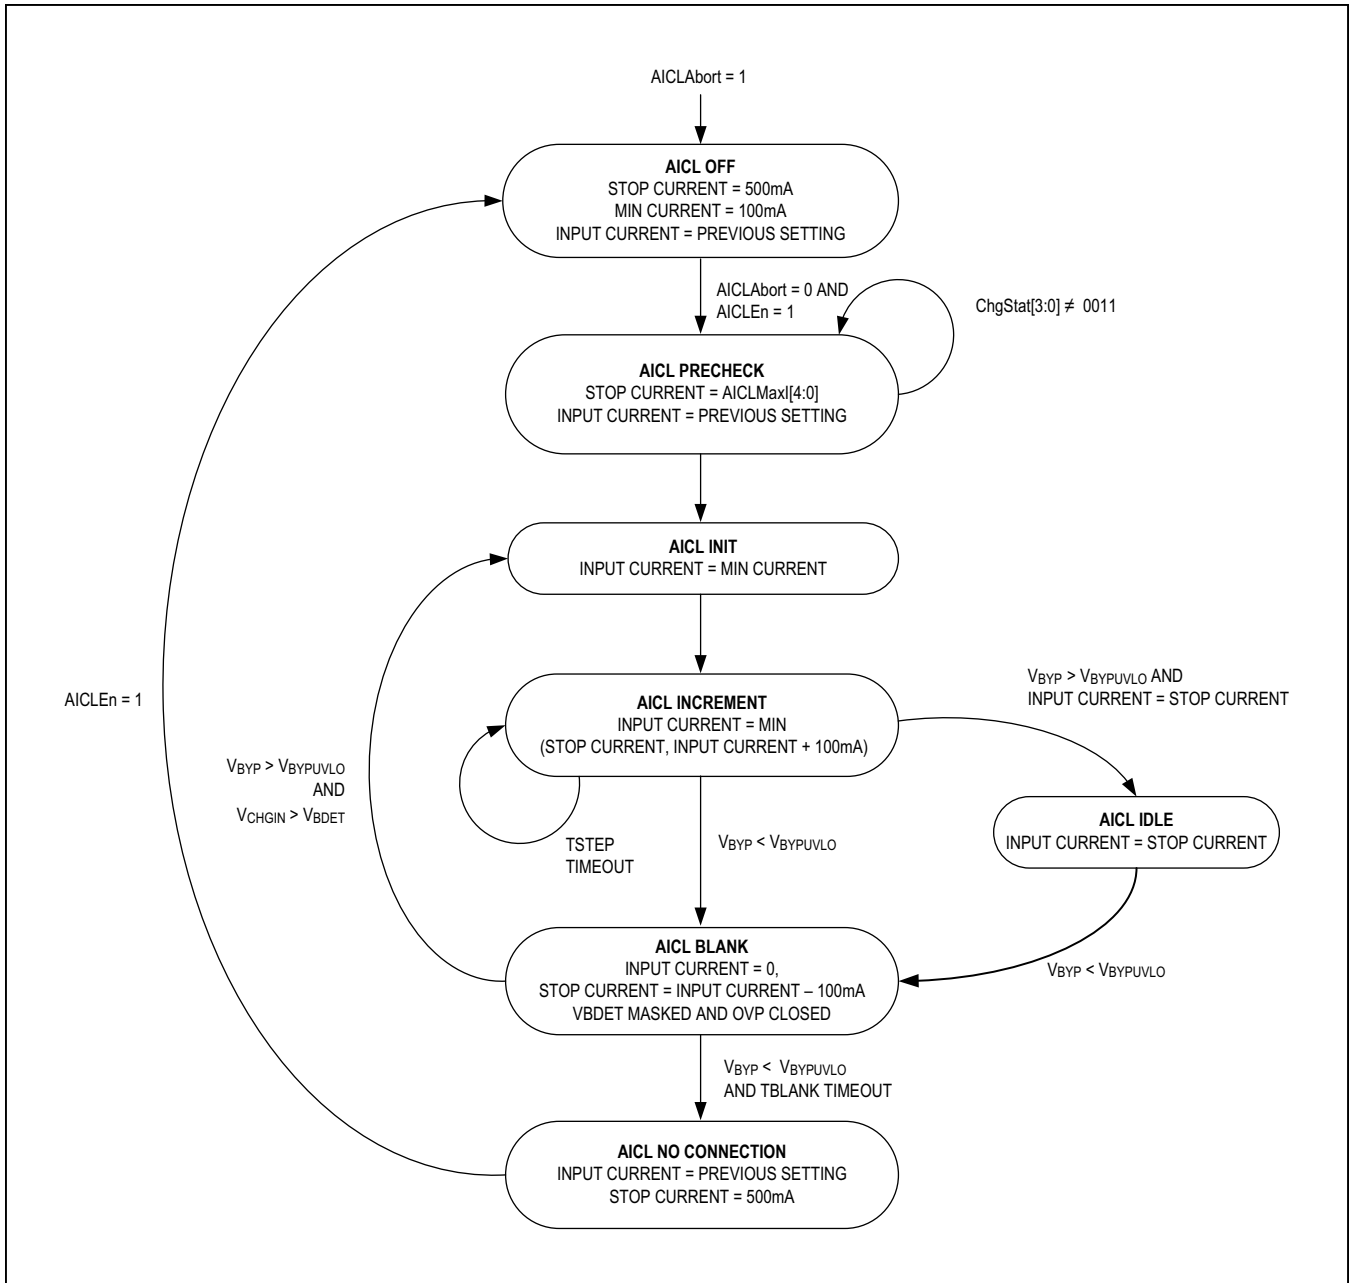

Figure 2. AICL Operation Flow Diagram
- 4) **Adaptive Input Current Limiting:** If the MAX14748 input current limit is programmed in such a way that the adapter voltage collapses due to resistive drop, current limiting, or poor load transient response, the AICL loop allows the MAX14748 to regulate the input voltage above a value needed to ensure proper operation. Figure 2 illustrates high-level operation of the AICL block and associated parameters are found in the registers 0x2C to 0x2E.